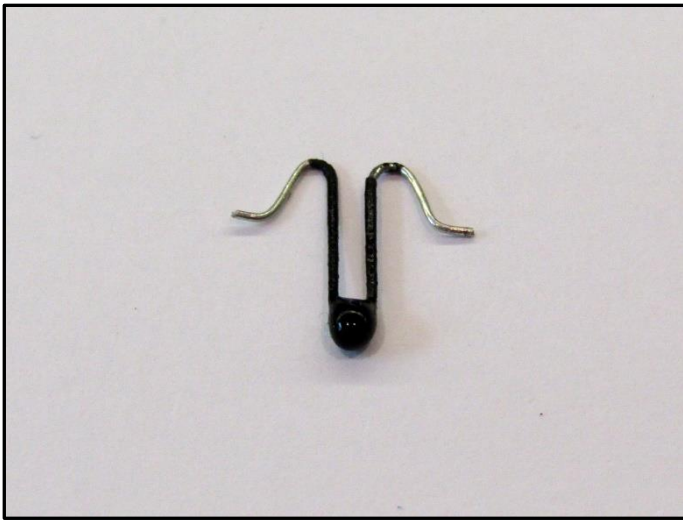
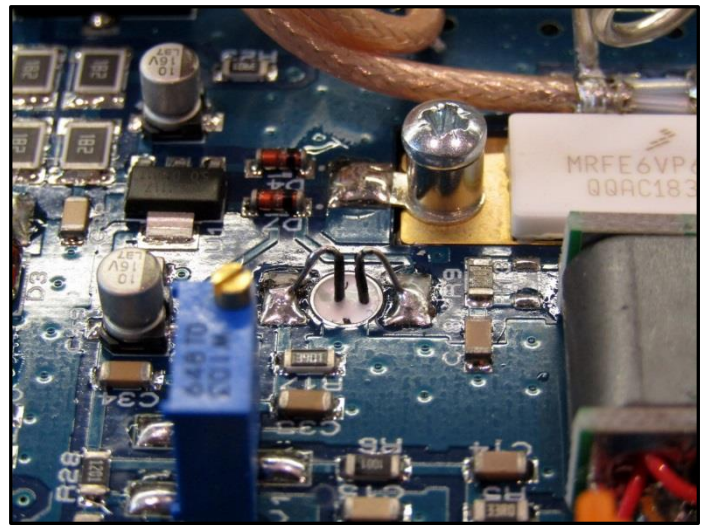

Figure 4a: Thermistor leg shape.
Figure 4b: Thermistor placement.
8. Cut the thermistor leads to 15mm length and carefully bend them in to a U shape as shown in figure 4a. Place the thermistor in to the hole filled with heatsink compound and then solder the leads onto the pads as in figure 4b, taking care the leads do not touch each other.